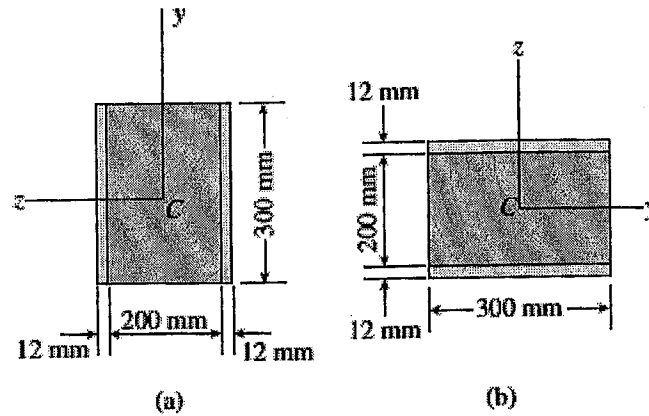

Fig.Q04
4. A wood beam with cross-sectional dimensions 200 mm x 300 mm is reinforced on its sides by steel plates 12 mm thick (see Fig.Q04). The moduli of elasticity for the steel and wood are $E_s = 190$ GPa and $E_w = 11$ GPa, respectively. Also, the corresponding allowable stresses are $\sigma_s = 110$ MPa and $\sigma_w = 7.5$ MPa.